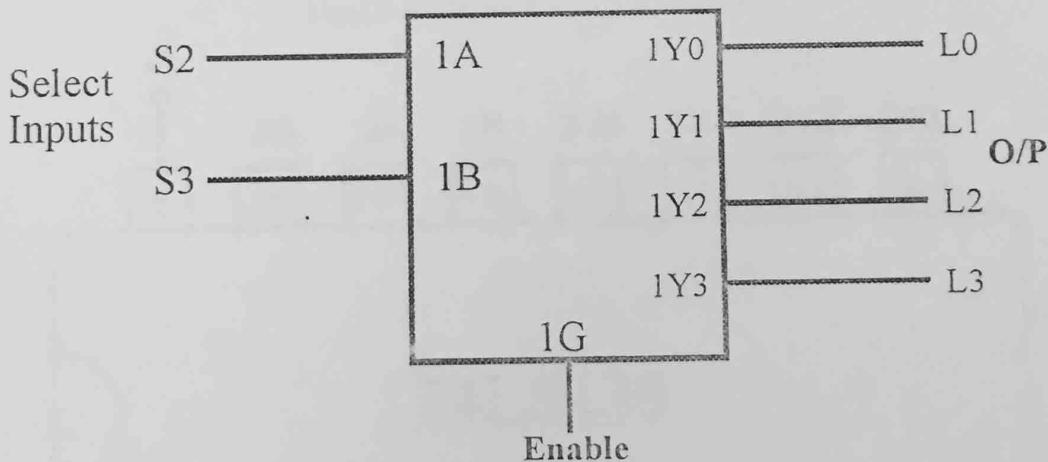

Figure 14.1
4. IC 74LS139 is a dual 2 to 4 line decoders / demultiplexers. Wire one of such decoder according to the diagram in fig. 14.1 by consulting data sheet of the IC.